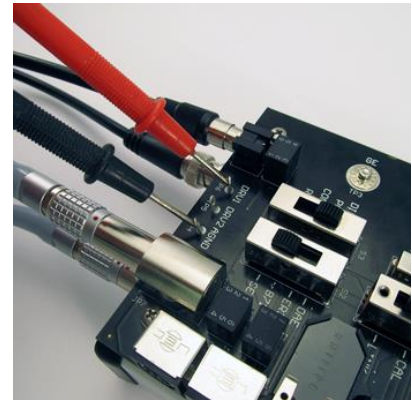

Figure 6
5. Click the UP and DOWN arrows to adjust the multimeter reading to within  $100 \pm 0.25$  mV. (Figure 6)